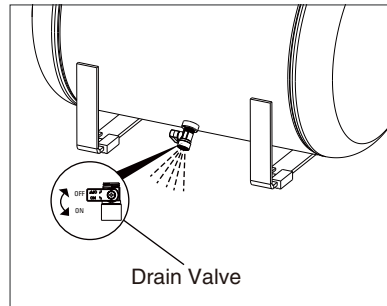

Fig 6
5. Slightly tilt unit and turn drain valve counter-clockwise to open (Fig 6).
6. After the water has been drained, close the drain valve (clockwise) (Fig 6). The air tank can now be stored.